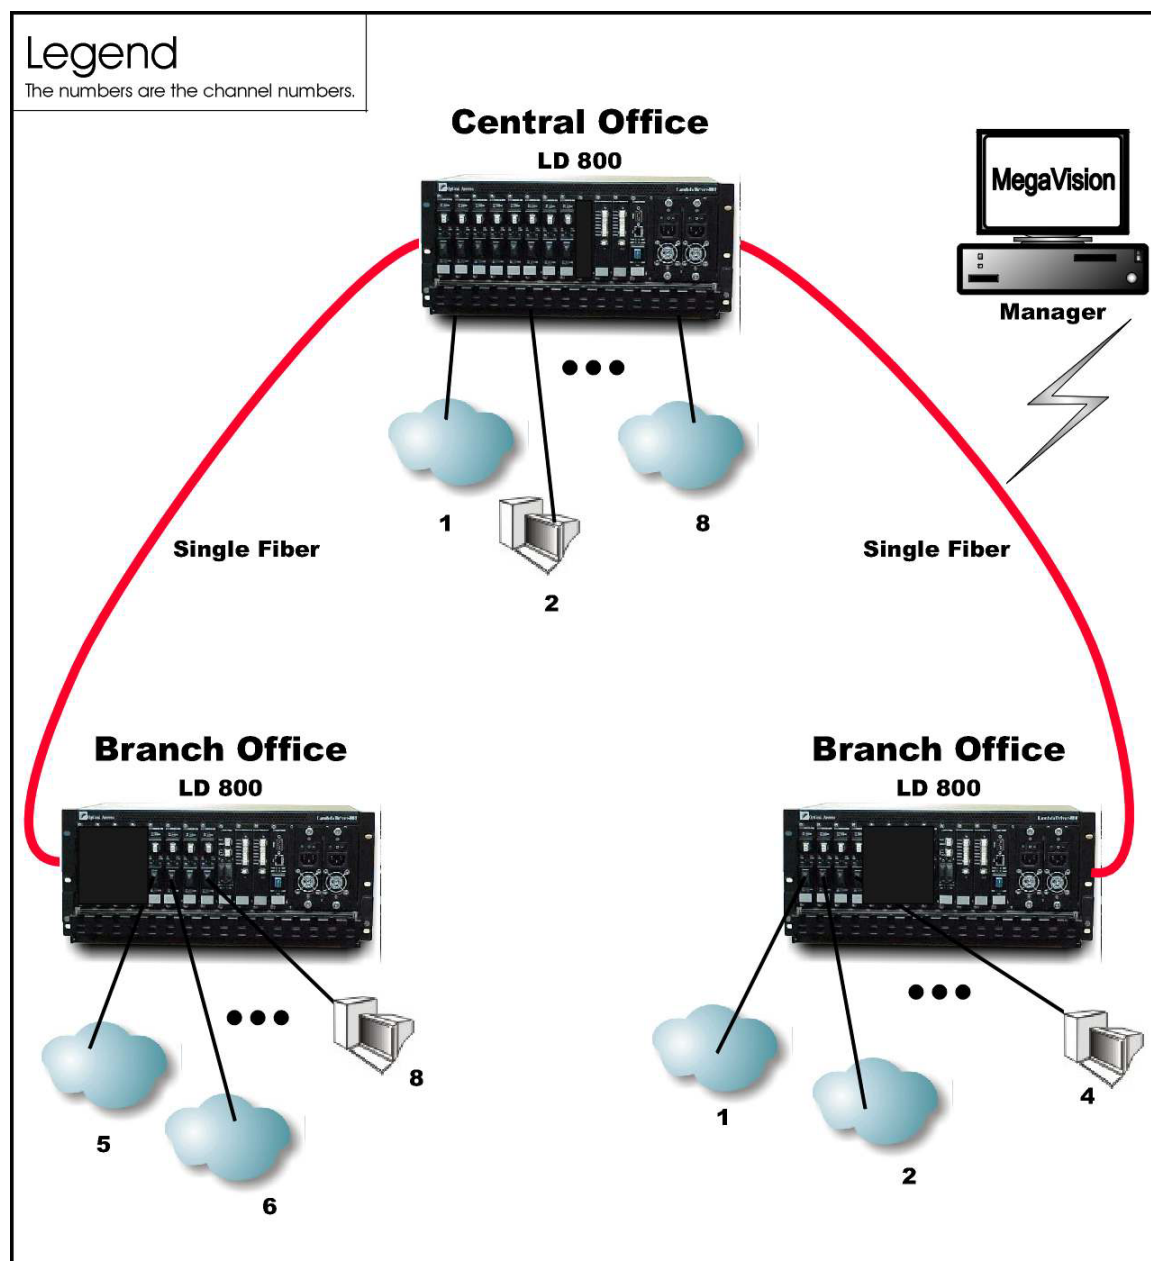

Figure 29: Star with up to 4 Full-Duplex Channels
In the Star Network topology (example shown in *Figure 29*), up to 8 channels can be created across the network, which uses single-fiber cables. This means that up to 16 access-equipment units (e.g., LANs, PCs, etc.) can be interconnected with this network topology – two per channel. All channels run from the Branch Office (BO) LDx00s to the Central Office (CO) LDx00, i.e., no channels exist between the BOs.